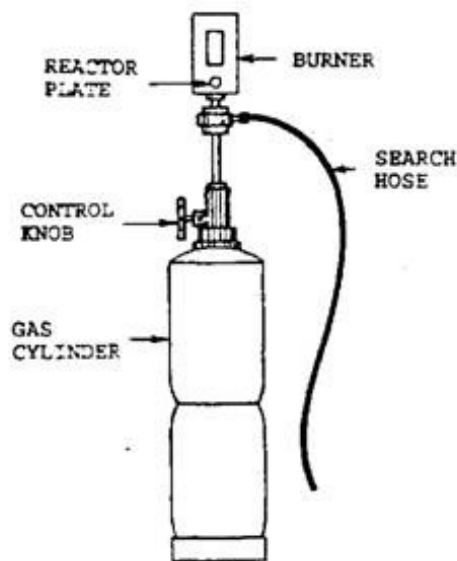

Figure 1 - Halide Torch
- Halide Torch (Figure 1 / Appendix A)
- 5.3 Light halide torch and adjust to a small flame (a large flame is ineffective) – see figure 1 and appendix A.